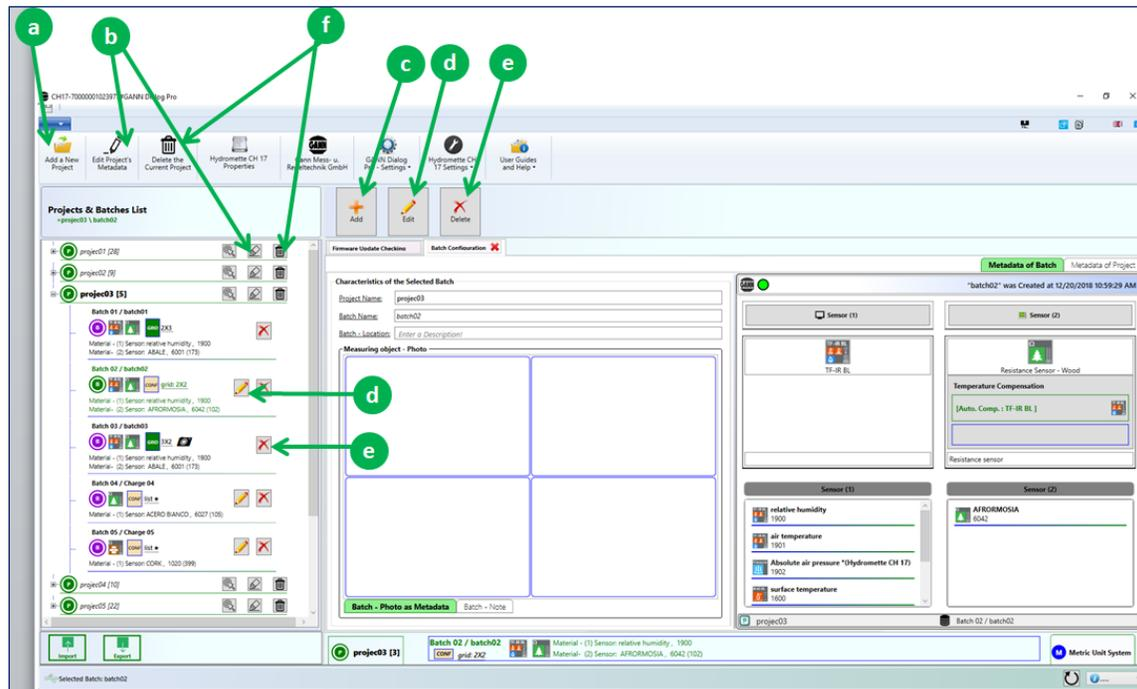

Figure 6-1: adding project and batch metadata
Figure 6-1 shows different actions that can be performed to add project or batch metadata:
- Click on the button “Edit” (see the arrow **b** in Figure 6-1)
- Click on the “Edit” button (d) in Figure 6-1)
To add metadata to an existing project, click on the “Edit” button (b) in Figure 6-1). Then the window shown in Figure 6-2 will appear. You can now select each metadata group on the left panel (a) in Figure 6-2) and fill in the corresponding details (f) in Figure 6-2).
In order to add metadata to existing batches click on the “Edit” button (b in Figure 6-1), or use the context menu on the selected batch item.